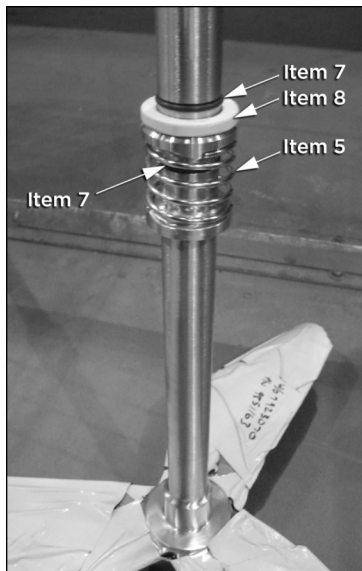

Figure 8
8. Install the second O-ring in the groove of the agitator shaft further from the prop. (See Section 3.0, "Suggested Routine Maintenance" for more information on this O-ring.) See Figure 8.